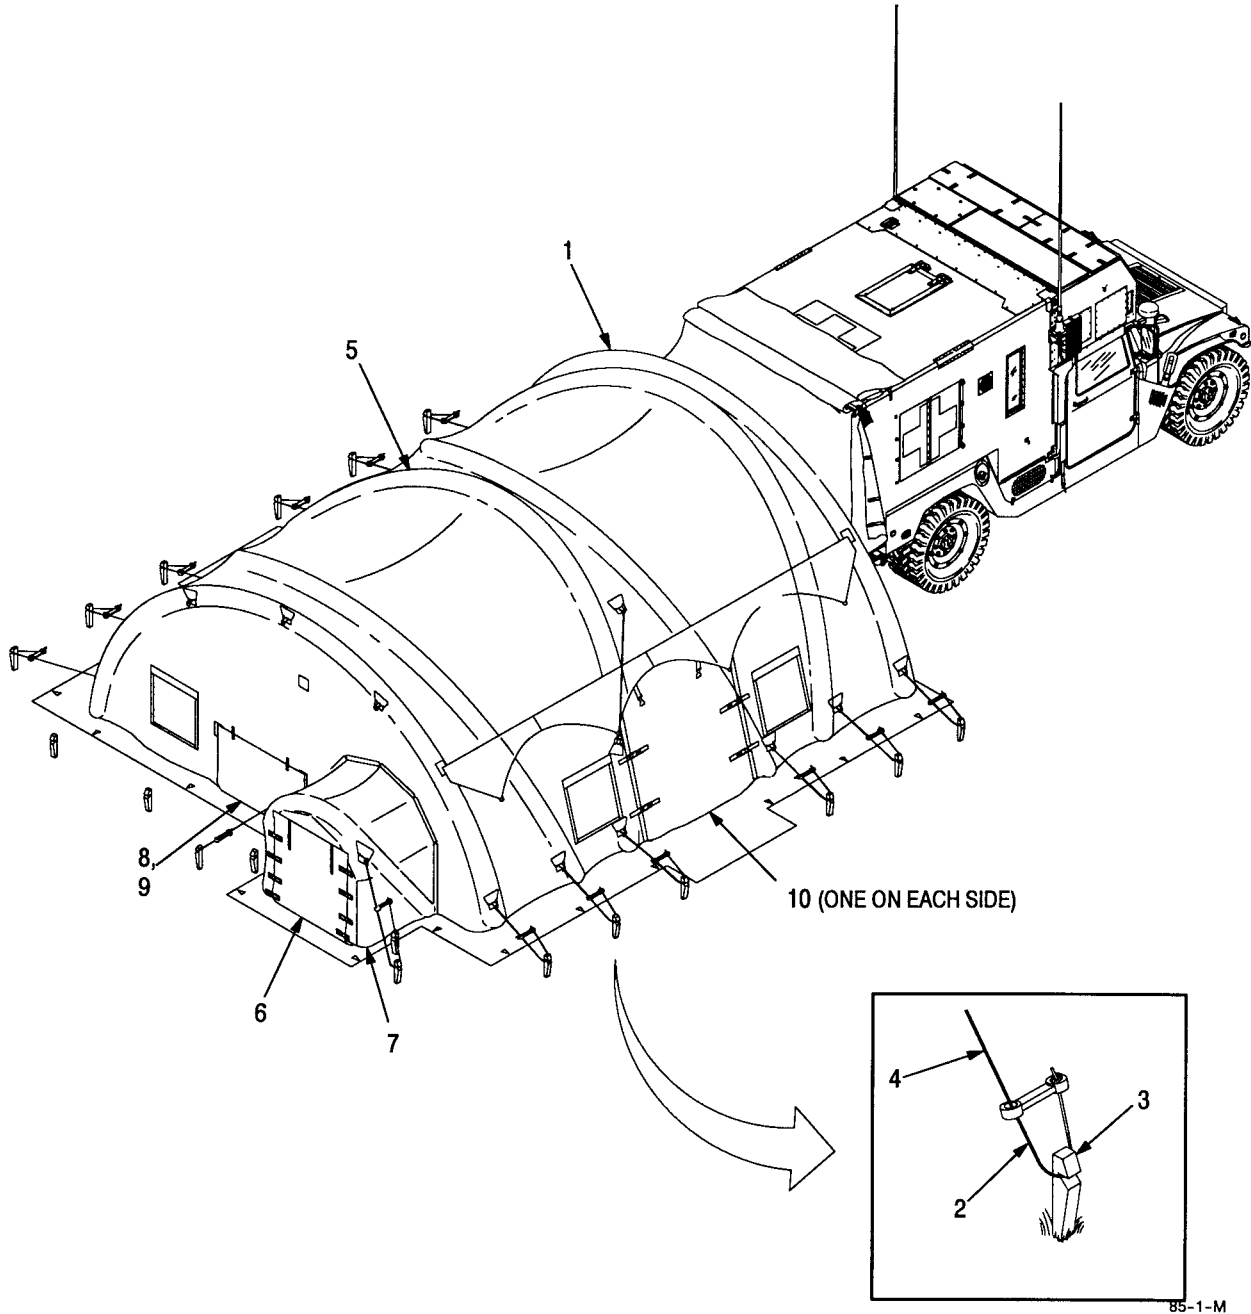

Figure 2-47. Inflating ABS
- (1) Check ambulatory door flap (6, figure 2-47) on outer ambulatory airlock door (7) and TALP door flap (8) on outer TALP airlock door (9) remain secured during raising of ABS (1). Verify both DCS entry way flaps (10) are secured.
- (2) Cab crew waits for signal from LMS crew that inner TALP airlock door has been installed.
- (15) As ABS (1, figure 2-47) begins to inflate, attach lines (2) to stakes (3) and pull on slip lines (4) to help support air beams (5). Monitor and loosen slip lines (4) as ABS (1) inflates and before slip lines (4) get too tight.